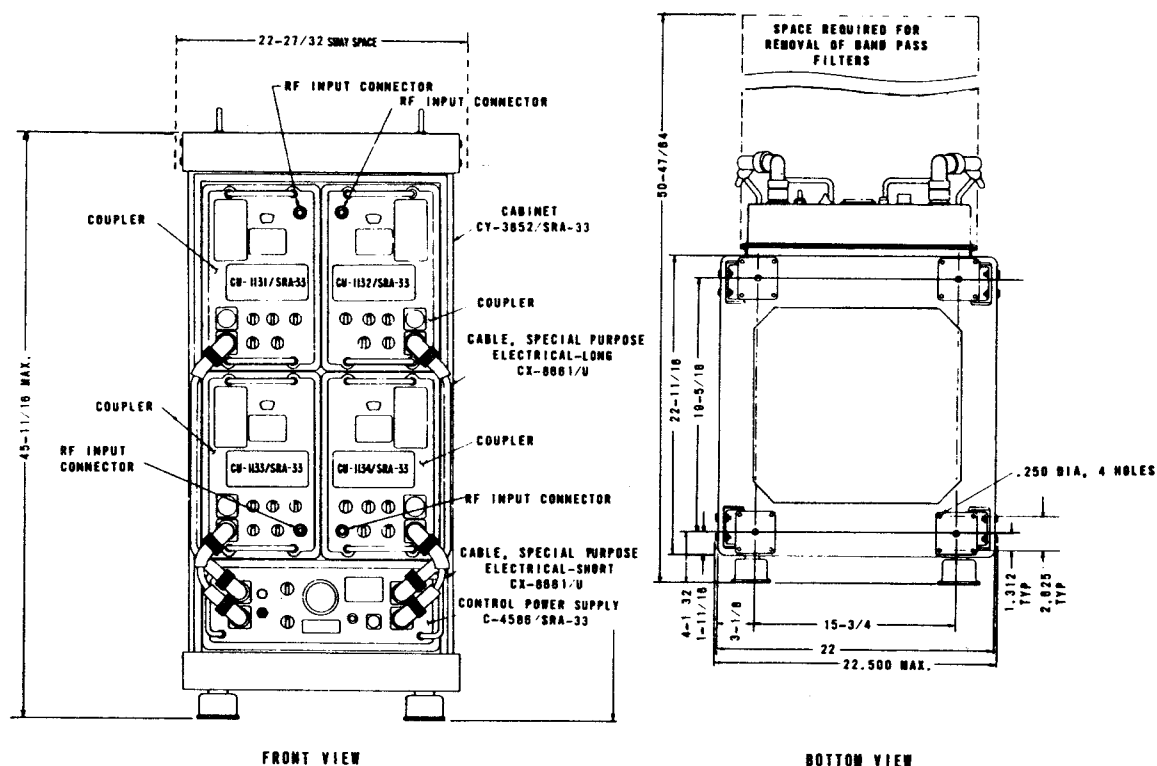

Figure 2-1 Antenna Coupler Group AN/SRA-33, Physical Configuration
- b. PHYSICAL CONFIGURATION. - See Figure 2-1.